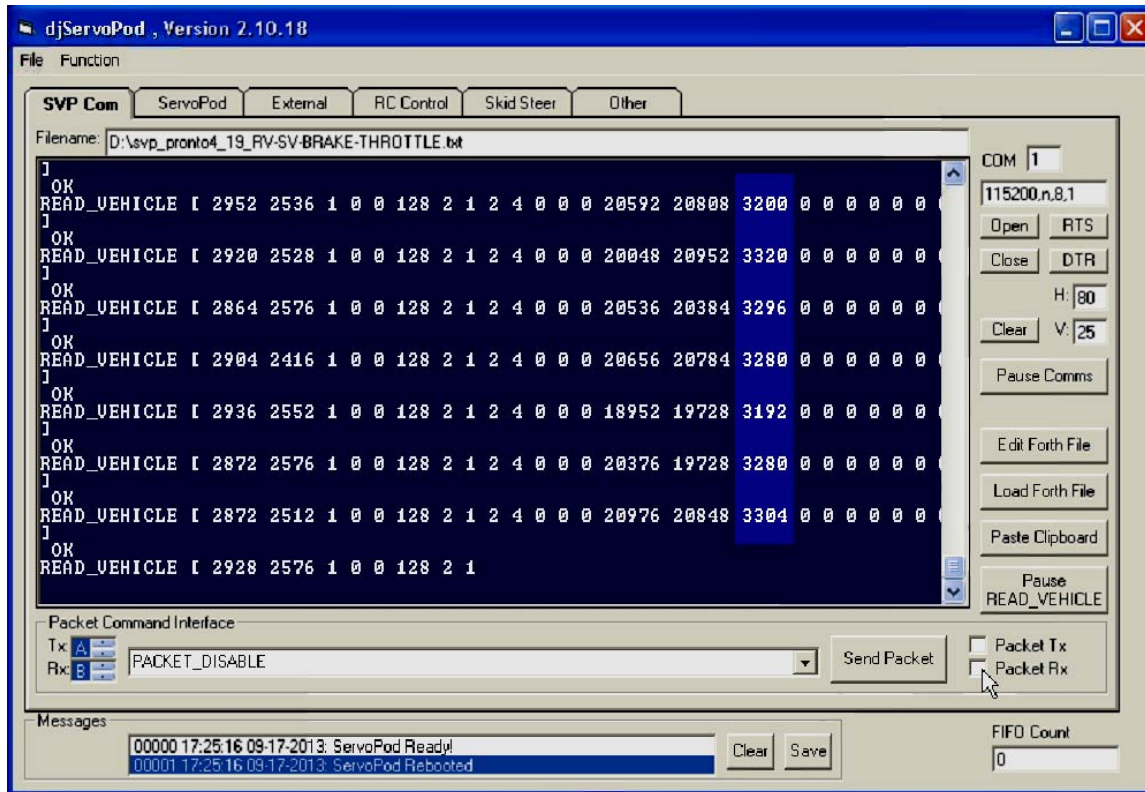

Figure 1: The 16th Field of the Serial Stream
8. Note the value of the 16th field of the steering stream (see Figure 1). The value will change slightly. Note the median value. This is the “potO” value (i.e., the offset value).